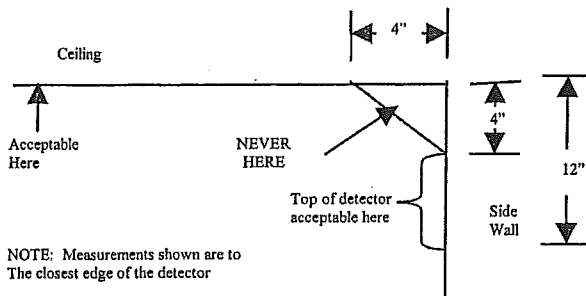

Figure 5
- The 4 inch "Dead Air" space where the ceiling meets the wall as shown in Figure 5